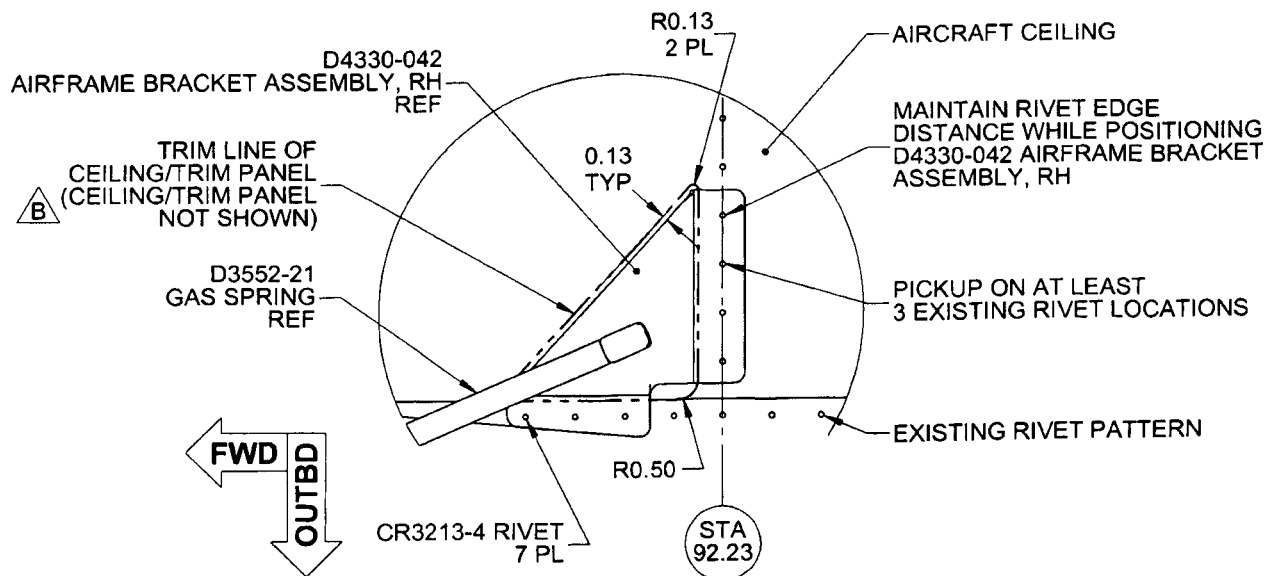

FIGURE 3: LOCATION OF D4330-042 AIRFRAME BRACKET ASSEMBLY
8. Locate D4330-042 Airframe Bracket Assembly, RH on the aircraft ceiling per Figure 3. Transfer drill #30 ($\phi 0.129$ ") holes from the ceiling to D4330-042. Deburr holes.
11. Apply a thin layer of Proseal 890 (or equivalent) to faying surface of the D4330-042/-3 brackets. Install the D4330-042 Airframe Bracket Assembly, RH using CR3213-4 rivets as shown in Figure 3. Install D4330-3 Door Bracket using hardware as shown in Figure 6.
12. Pre-install the ceiling or trim panels that were removed in Step 1 and transfer mark contour of D4330-041 or -042 as shown in Figure 3 (SHT 6). Remove ceiling or trim panels and perform cutout to clear D4330-041 or -042. Touch-up finish of ceiling or trim panels cutout area in accordance with aircraft maintenance manual and re-install any ceiling or trim panels.
8. Locate D4330-042 Airframe Bracket Assembly, RH on the aircraft ceiling per Figure 3. Transfer drill #30 ($\phi 0.129"$) holes from the ceiling to D4330-042. Deburr holes.